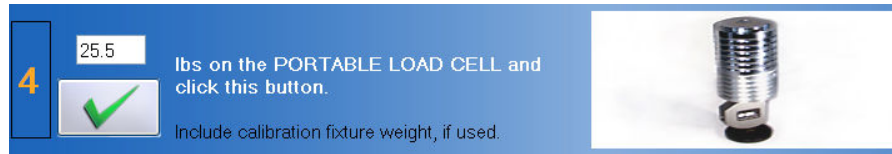

Figure 7-6. Portable Load Cell - Set the Weight
Step 5. Place both calibration weights on the calibration disk and type **25.5** (calibration disk plus calibration weight) in the text field (Figure 7-6).
Step 6. Click on  to set the weight (Figure 7-6).